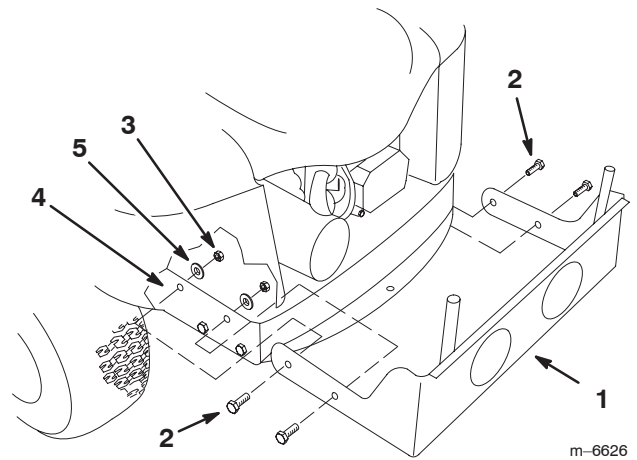

Figure 4
2. Align the holes in the rear frame and the bagger mounting bracket (Fig. 4).
3. Secure the bagger mounting bracket to the rear frame with 4 bolts (3/8 x 1 inch), 4 washers (3/8 inch), and 4 locknuts (3/8 inch) (Fig. 4).